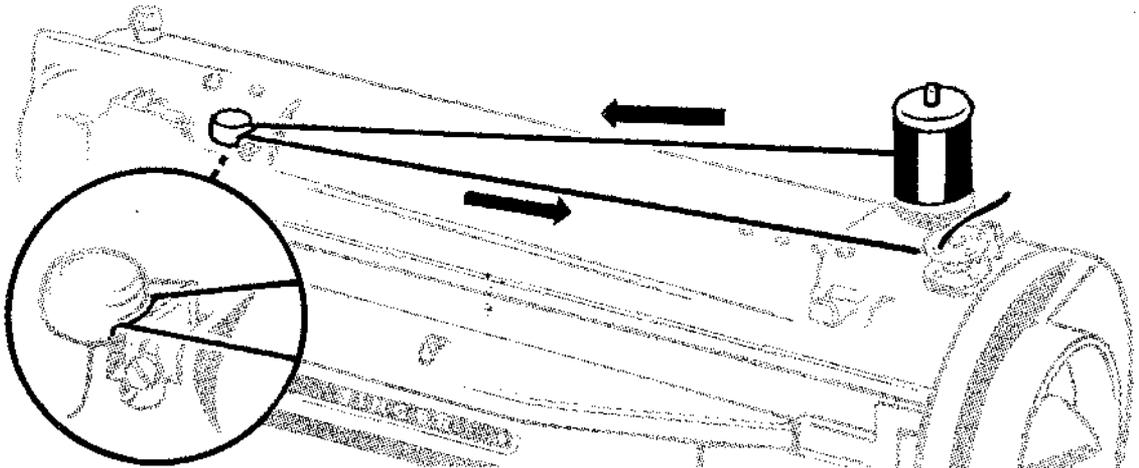

FIG. 13.
- Place spool of thread on spool pin and thread machine as shown in Fig. 13.